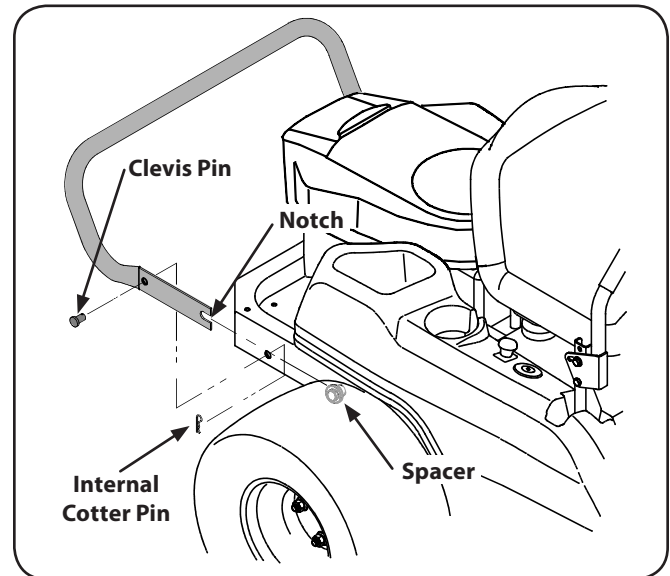

Figure 3-7
For shipping purposes the rear bumper is rotated upward from its normal position. To reposition the rear bumper, refer to Fig. 3-7 and proceed as follows:
2. While supporting the rear bumper, cut the cable tie fastening the bumper to the engine lift bracket, and remove the clevis pins from each side. See Fig. 3-7.
3. Remove the bumper and reposition to align the notch at each end of the bumper with the spacer on each side of the frame. Slide the bumper notches onto the spacers. Refer to Fig. 3-7.